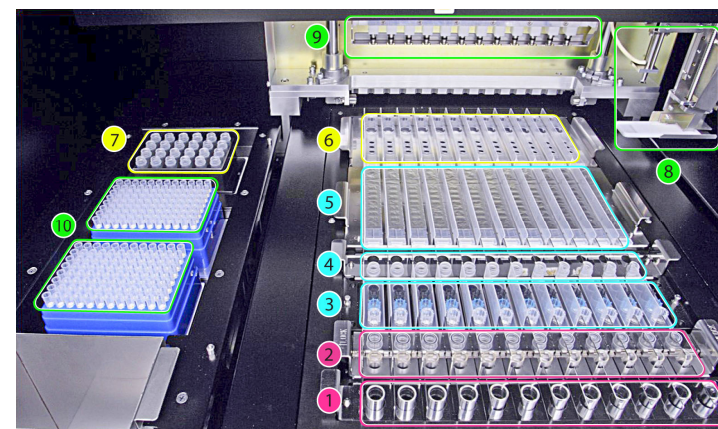

Figure 1: The «ELiTe InGenius» loading area
An overview of the «ELiTe InGenius» instrument is shown in Figure 1.
Figure 1 shows: Primary tube rack position (1), Extraction tube and cap rack position (2), Tip rack position (3), Elution tube rack position (Elution tube) (4), Extraction cartridge rack position (5) and PCR cartridge rack position (6), PCR and Internal Control reagent block (inventory manager) position (7), sample and reagent dispensing (8, 9), the waste box (left bottom) and tips positions (10).
6. To confirm that sufficient reagents for the number of tests selected are placed in the inventory manager position 7 (cfr. page 10, Figure 1) as indicated on the screen, press the "Next" button.
- Place sufficient Tips racks in position 10 (cfr. page 10, Figure 1).
- Place the PCR cassettes indicated in position 6 (cfr. page 10, Figure 1).
- Place the Extraction cartridge cassette(s) indicated in position 5 (cfr. Page 10, Figure 1).
- Place the “Elution Tubes” into Elution Tube Rack, indicated in position 4 (cfr. page 10, Figure 1).
15. Place the amount of “Tip package” indicated in position 3 (cfr. page 10, Figure 1).
17. Place the “Extraction Tubes” indicated in position 2 (cfr. page 10, Figure 1).